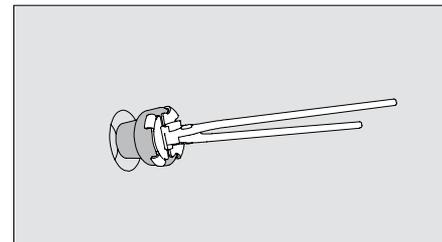

Fig. A5.14
2. Close the anchor hole with a suitable cone, e.g. PERI Concrete Cones. (Fig. A5.14)